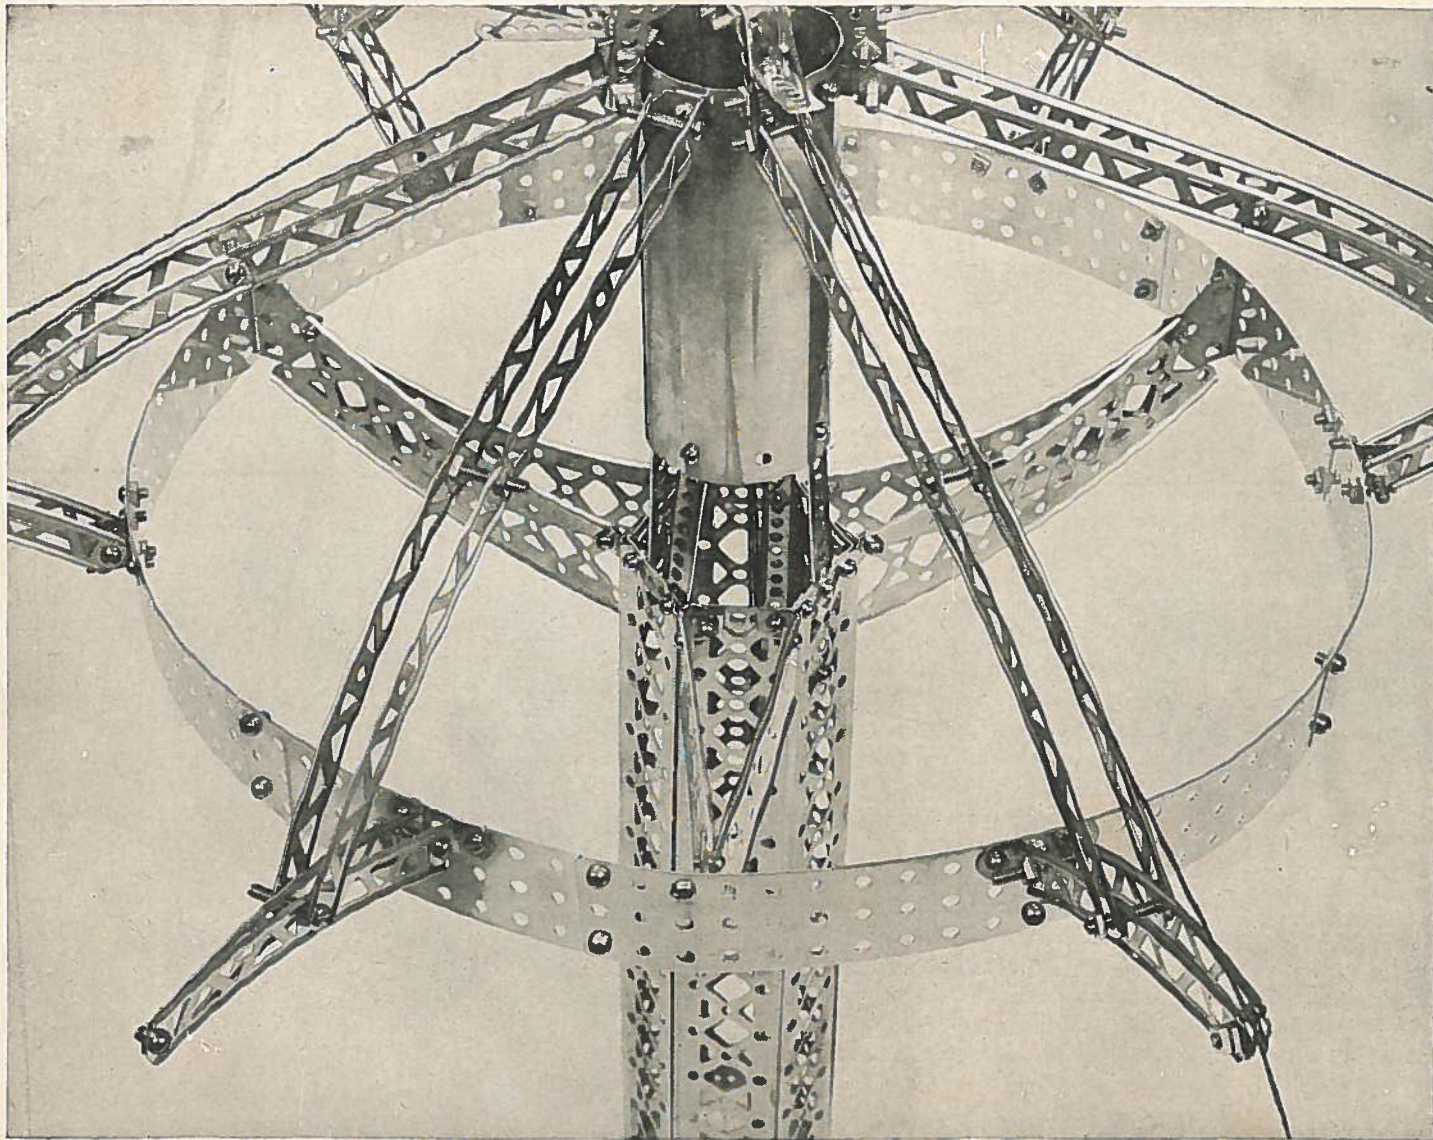

FIGURE 4
This third figure shows the top of the second square girder being fastened to a six-sided member constructed of 6 (EX) big channel girders 12", and two (NS) 41 hole strip—formed. The two (NS) strips are attached inside each end of this six-sided member. See Fig 4 for an inside view of this member.
The top ring is built in circular form with 10 (MF) 1" x 5" base plates. This ring is supported from the top of the tower in three places with (EZ) big channel curved girders as shown in Figure 4. A (T) boiler is mounted on top of the tower with 4 (H) 11 hole strips. The top of the boiler is supported in six places with an assembly of 2 (B) 5" girders fastened to 2 (E) 5" curved girders which in turn are fastened to 2 (E) 5" curved girders that form the over-hanging struts. On Figure 4, you will see the over-hanging struts are fastened to the ring with (P20) 5 hole strip—formed. In the ends of four of these struts, (AQ) sheave pulleys are fastened so they are free to turn. The string for the parachute will pass over this pulley.